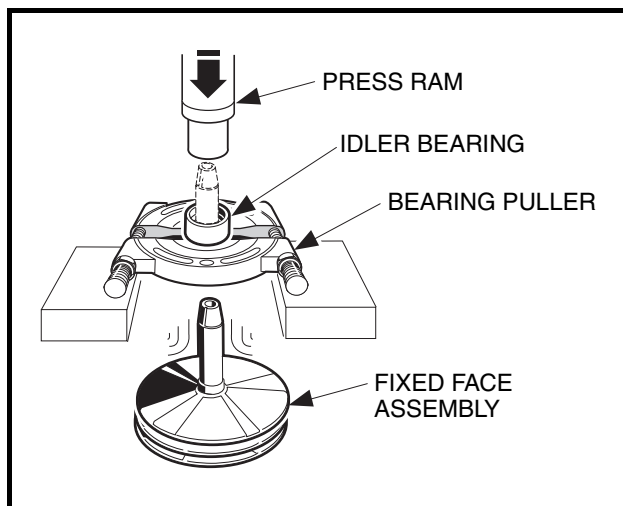

Figure 20-12 Remove Idler Bearing
- If necessary, remove idler bearing. Use a press to remove the bearing (**Figure 20-12, Page 20-9**). See following **NOTE**.